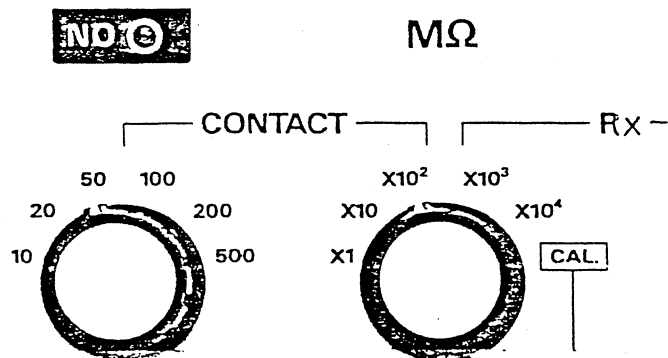

Figure 6 Contact Setting Switch (Left) and Multi-Range Switch (Right)
- . CONTACT setting switch (S_4) (Figure 6)